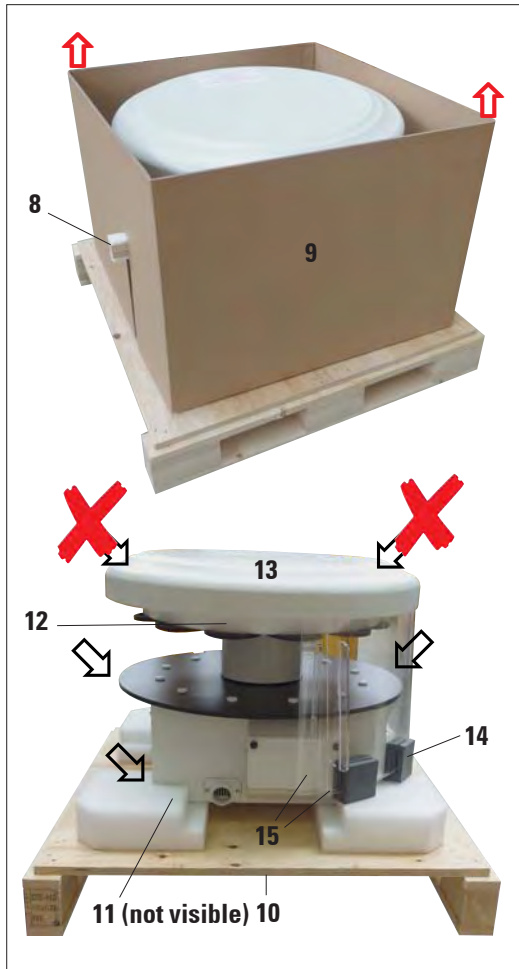

Fig. 10b
- Remove the wooden ledge (8) sideways from the interior box (9).
- Remove the interior box (9) in an upward movement.
- To lift up the instrument (using 2 persons), take it by the reagent container platform or by the lower end of the housing (see Fig. 10b '↖' '↗' below) and lift it from the base plate (10)!
- Install the instrument on a stable laboratory bench. Four rollers (11) under the instrument housing permit rotating the instrument on the bench.
- Remove the sponge rubber transport safety device (12) from under the carousel cover (13).
- Depending on the instrument version, 4 foam transport anchors (14) may have to be removed between the Plexiglas plates (15).